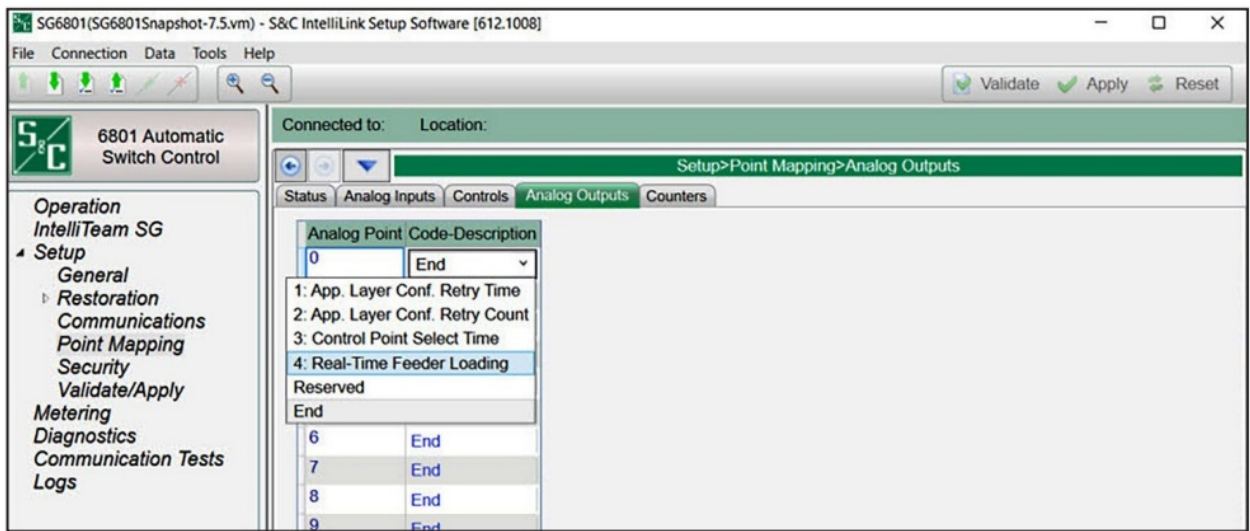

Figure 3. The Setup>Point Mapping>Analog Outputs screen.
- The Setup>Point Mapping>Analog Output Points screen, shown in Figure 3, has the configuration parameters for analog output points. Map these points to make them available in the SCADA system.